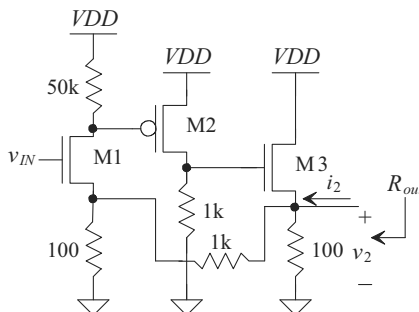
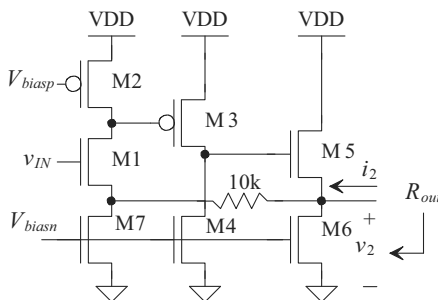

Figure 31.56 A series-shunt feedback amplifier with source-follower output buffer.
Figure 31.57 A series-shunt amplifier with source-follower output buffer.
- 31.11** Using the series-shunt amplifier shown in Fig. 31.56, (a) identify the feedback topology by labeling the mixing variables and output variable, (b) verify that negative feedback is employed, (c) draw the closed-loop small-signal model, and (d) find the expression for the resistors $R_{\beta i}$ and $R_{\beta o}$.
- 31.12** Using Fig. 31.56 and the results from problem 31.11, (a) draw the small-signal open-loop model for the circuit and (b) find the expressions for the open-loop parameters, A_{OL} , β , R_i , and R_o and (c) the closed-loop parameters, A_{CL} and R_{out} . Note that finding R_{in} is a trivial matter since the signal is input into the gate of M1.
- 31.13** Using the series-shunt amplifier shown in Fig. 31.57, (a) verify the feedback topology by labeling the mixing variables and the output variable closed-loop small-signal model and (b) find the values of $R_{\beta i}$ and $R_{\beta o}$.
31.14 Using the series-shunt amplifier shown in Fig. 31.57 and the results from problem 31.13, (a) draw the small-signal open-loop model for the circuit and (b) calculate the open-loop parameters, A_{OL} , β , R_i , and R_o and (c) the closed-loop parameters, A_{CL} , and R_{out} . Note that Fig. 31.57 is identical to Fig. 31.56 except that the resistors have been replaced with active loads.